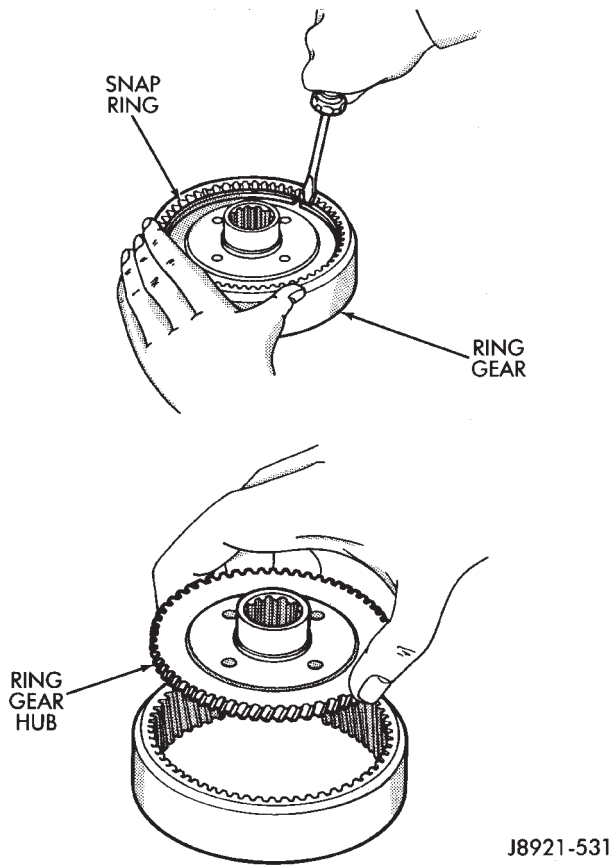

Fig. 11 Removing Ring Gear Hub
(12) Remove snap ring from ring gear and remove ring gear hub (Fig. 11).